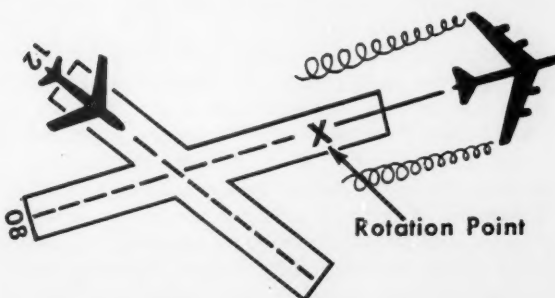

Fig. 12
- Landing after the departure of a large aircraft on a crossing runway. Note the aircraft's rotation point — if past the intersection, continue the approach. Land prior to the intersection (see Fig. 12). If the large aircraft rotates prior to the intersection, avoid flight below its flightpath. Abandon the